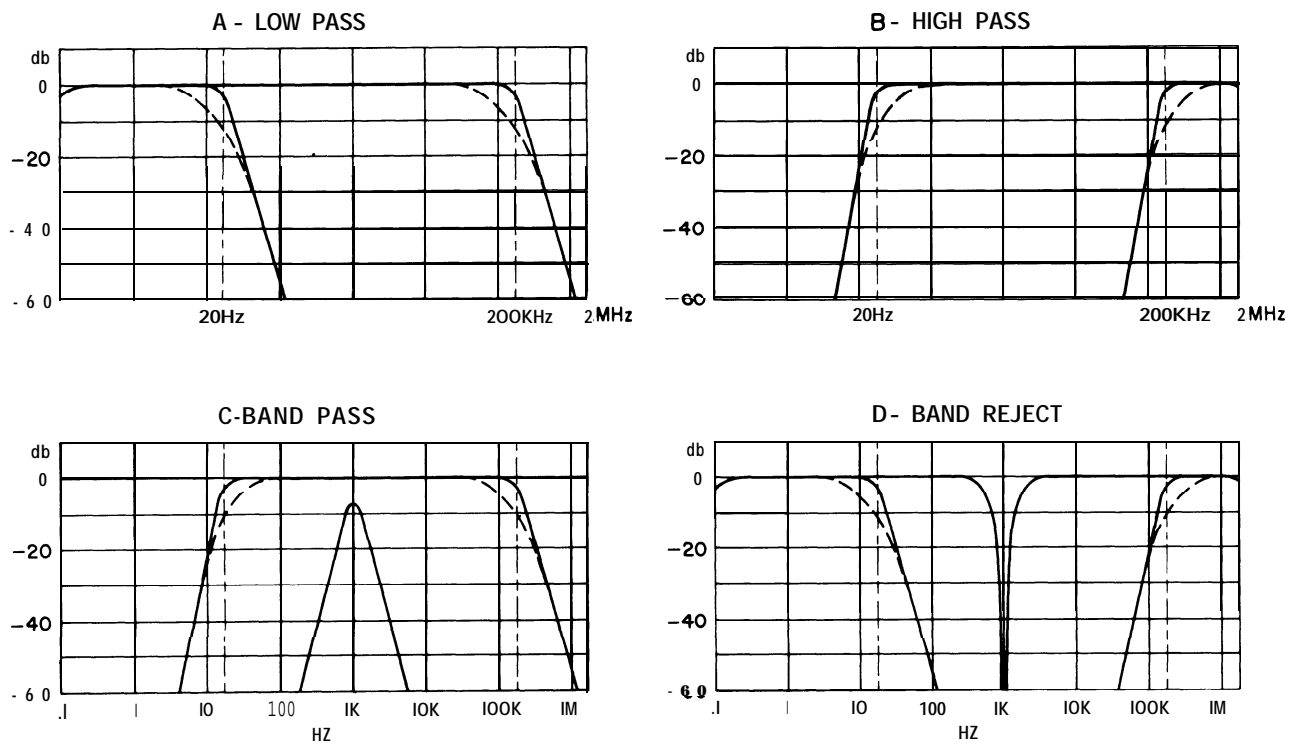
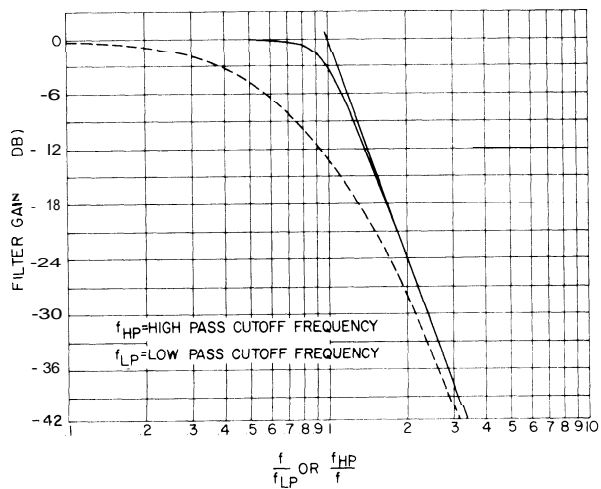
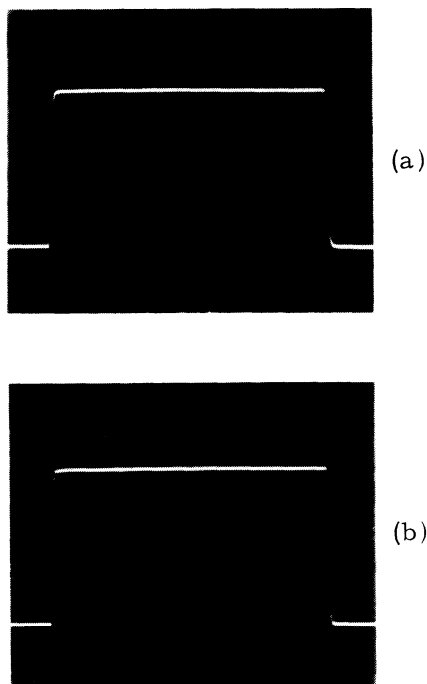

Figure 2-2. Pass Band Characteristics
Figure 2-3.
Figure 2-4. Square Wave Response
This response is plotted as the solid curves in Figure 2-2, curves A and B, and normalized on a larger scale as in Figure 2-3. It hugs the 0-dB line very closely with no ripples almost to the cutoff frequency, and then keeps close to the 24dB/octave asymptote, departing 1dB from these lines at $f/f_0 = 0.8$ and 1.25 respectively.
The limitations of this type of filter are apparent in Figure 2-4(a) which shows the step-function response of a fourth order Butterworth low pass. For applications where this eleven percent overshoot cannot be tolerated, the Model 3550 provides the LOW Q position of the RESPONSE switch. In this mode the sharpness of the cutoff is reduced just enough to eliminate the step-function overshoot (see Figure 2-4(b)). The frequency response of the LOW Q mode is shown by the dotted curves in Figure 2-2 (curves A and B). Obviously, the cutoff is much less sharp, the attenuation at the corner is approximately 12 dB and the 1 dB points are at 0.2 and 5 times the cutoff frequency.
3. Referring to Figure 2-3: